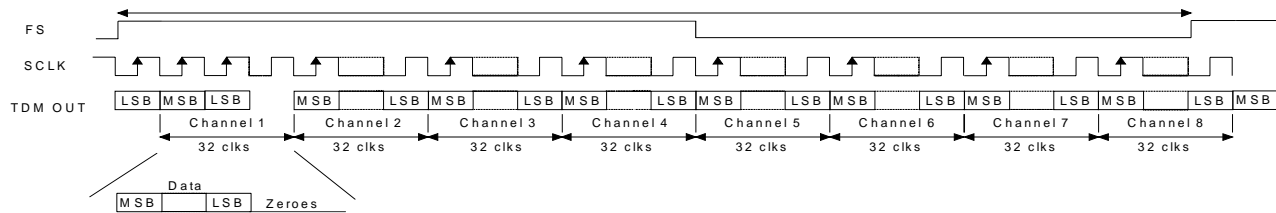

Figure 12. TDM Format
In TDM Mode, all eight channels of audio data are serially clocked out during a single Frame Sync (FS) cycle, as shown in Figure 12. The rising edge of FS signifies the start of a new TDM frame cycle. Each channel slot occupies 32 SCLK cycles, with the data left justified and with MSB first. TDM output data should be latched on the rising edge of SCLK within time specified under ‘Serial Audio Interface - TDM Timing’ section on page 16. The TDM data output port resides on the SDOUT1 pin. The TDM output pin is complimentary TDM data. All SDOUT pins will remain active during TDM Mode. Refer to Section 4.11 “Optimizing Performance in TDM Mode” on page 29 for critical system design information.